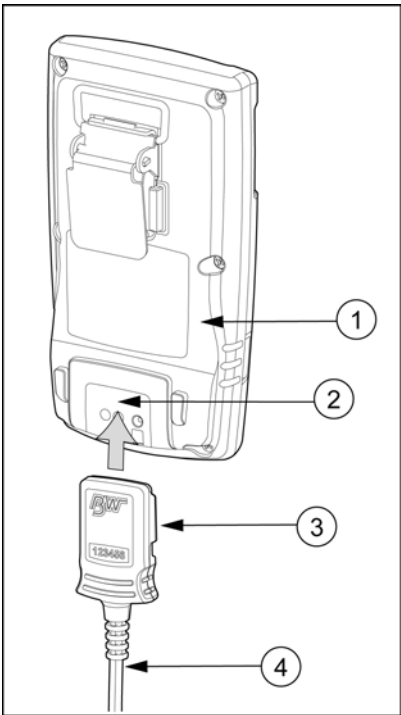

Figure 8. Connecting the Charging Adapter
To charge the battery, refer to Figure 8., Table 13., and the following procedures (1-8).
- 3. Attach the charging adapter to the charger interface. Refer to Figure 8.